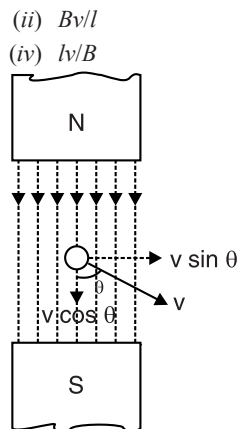

Fig. 9.46
11. In Fig. 9.46, the component of velocity that does not induce any e.m.f. in the conductor is .....